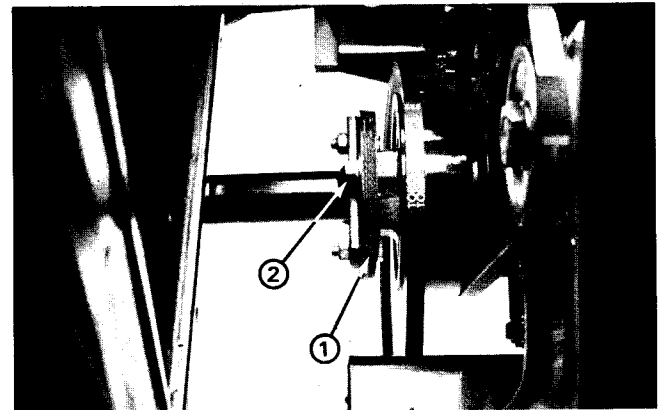

Figure 7
3. Remove the cap screws, lock washers and spacers securing the drive coupling assembly to the engine crankshaft pulley (Fig. 7). Remove the drive coupling assembly from between the hub and the pulley .
3. Insert the small spacers into the holes in the rubber coupling so the small end of the spacer is facing the engine pulley. Secure the rubber coupling to the engine pulley with the 8 mm cap screws and lock washers (Fig. 7).